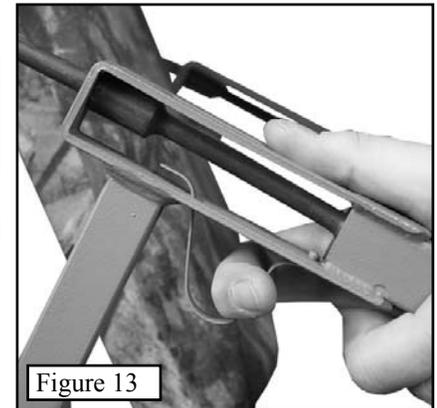

Figure 13
Step 1. Attach the base platform to the tree first. To do this, pull down and hold the QuickDraw cable spring as shown in *Figure 13*. This will release the locking tab from the cable, allowing you to remove it from the cable bracket.